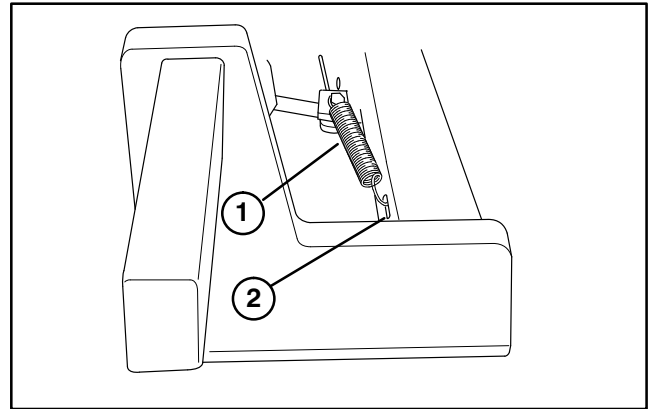

Figure 3
6. Remove cotter pins from clevis pins holding brake struts and yokes together, and discard the cotter pins. Keeping clevis pin in place, install short end of spring into hole in clevis pin to retain parts together. Connect other end of springs to slotted holes in lift arms (Fig. 3).